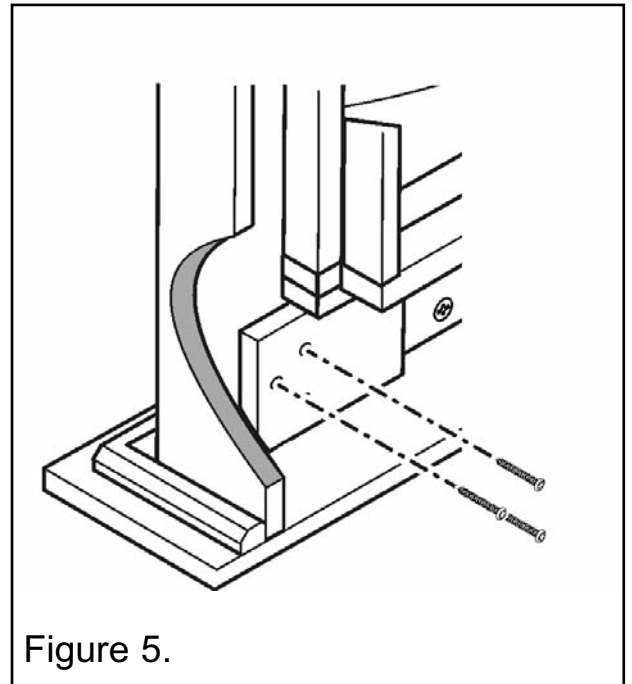

Figure 5.
- Secure the fascia to the surround legs using six screws (G) as in figure 5.